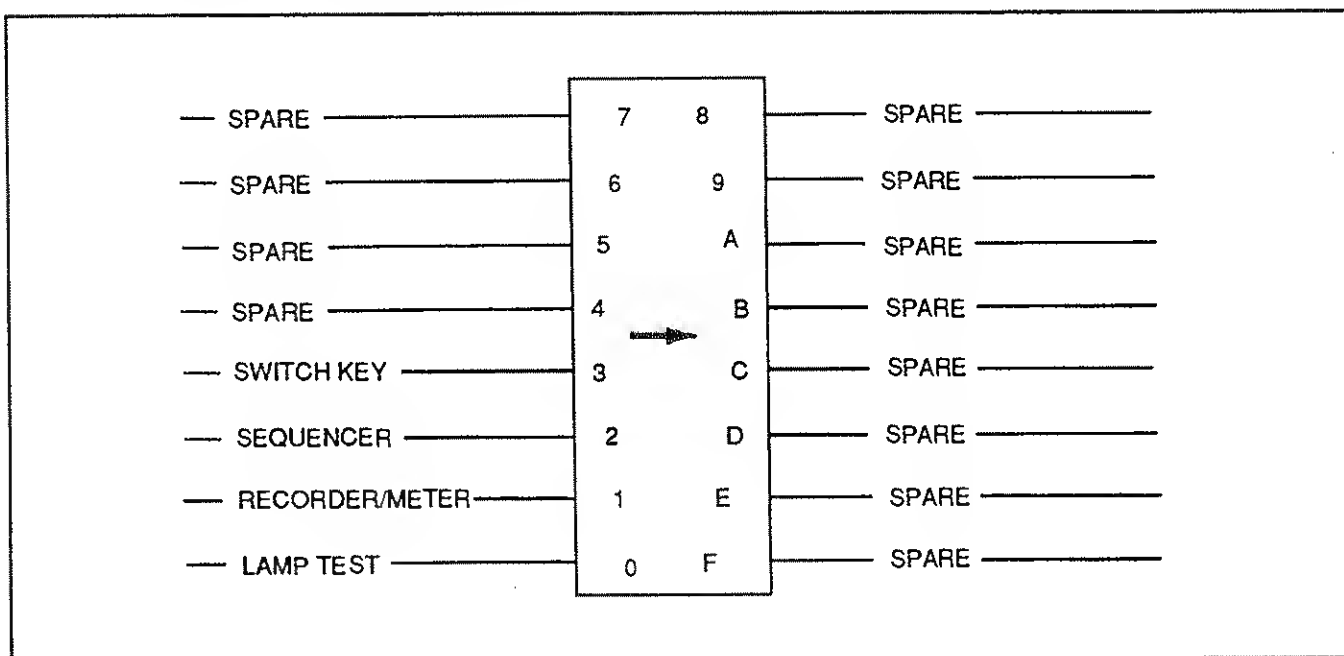

Figure 6-4. TEST Switch Positions
- (2) Using the front panel up and down arrow keys, scroll through the menu of end-of-string terminations until the desired table number, as listed in Table 6-4, appears on the dB CAL FACTOR display. (Factory preset value is Table No. 0.)
- (3) Press the **LOAD REF** key.
l. Set **FUNCTION** switch A5S2 to position B (BEC "Test"). This position of **FUNCTION** switch A5S2 is provided as an aid to troubleshooting. It is used in conjunction with **TEST** switch A6S1 to set the instrument to various fixed states of operation. Refer to Figure 6-4 for selectable test functions.
- (1) **Lamp Test** (position 0). In this position all the segments of all LEDs are turned on.
- (2) **Recorder/Meter** (position 1). In this position a ramp voltage is applied to both the analog meter and recorder output. The applied voltage drives the meter from zero to beyond full scale and the recorder output from zero to +13.0 volts.
- (3) **Sequencer** (position 2). An arrow symbol is sequenced across the display positions.
- (4) **Switch Key** (position 3). A single decimal point is lighted. As each front panel pushbutton switch is pressed, a corresponding value from 0 to 9 is displayed in eight front panel display positions.